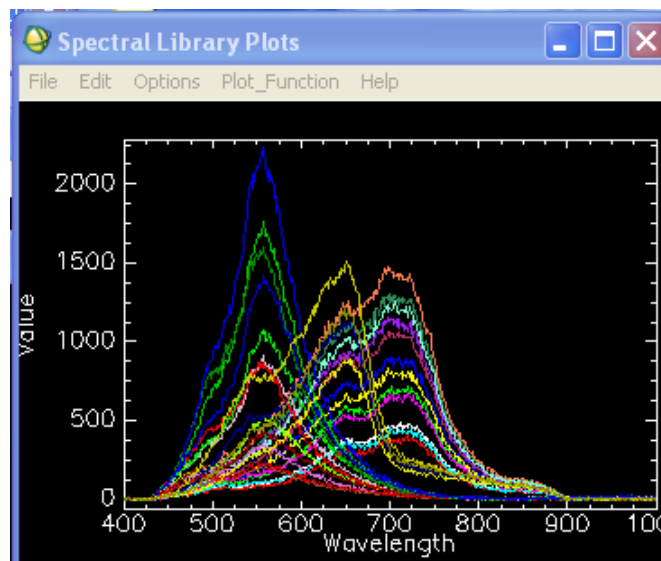

Figure 10d. Spectral Library Plots of the individual pixel spectra from the ROIs
- The rest of the entries can be plotted by either hitting the keyboard's down arrow, or in the menu bar on the spectral plot by going to menu bar in the Spectral Library Plot box, selecting Input Data and selecting Spectral Library (Figure 10d). The Mean is the average of each ROI and the regions listed below are what make up the Mean.